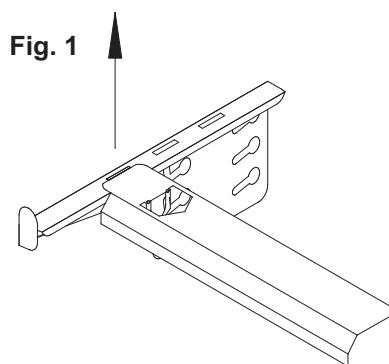

Fig. 2
- To remove the shelving brackets loosen the retaining screws. Lift the front of the bracket (**Fig. 2**) and pull gently towards the front of the cabinet (**Fig. 3**). The bracket should now detach freely.